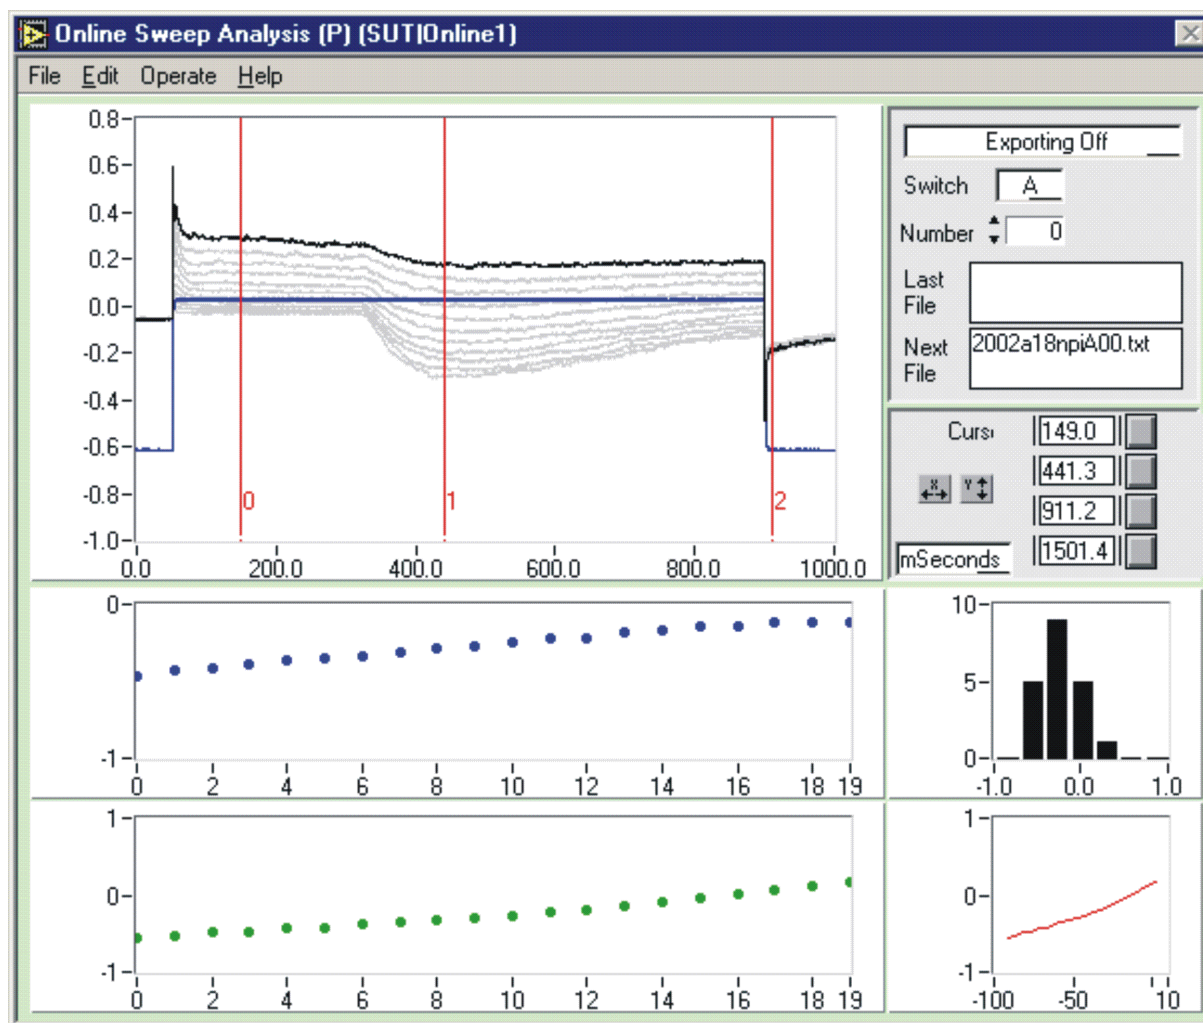
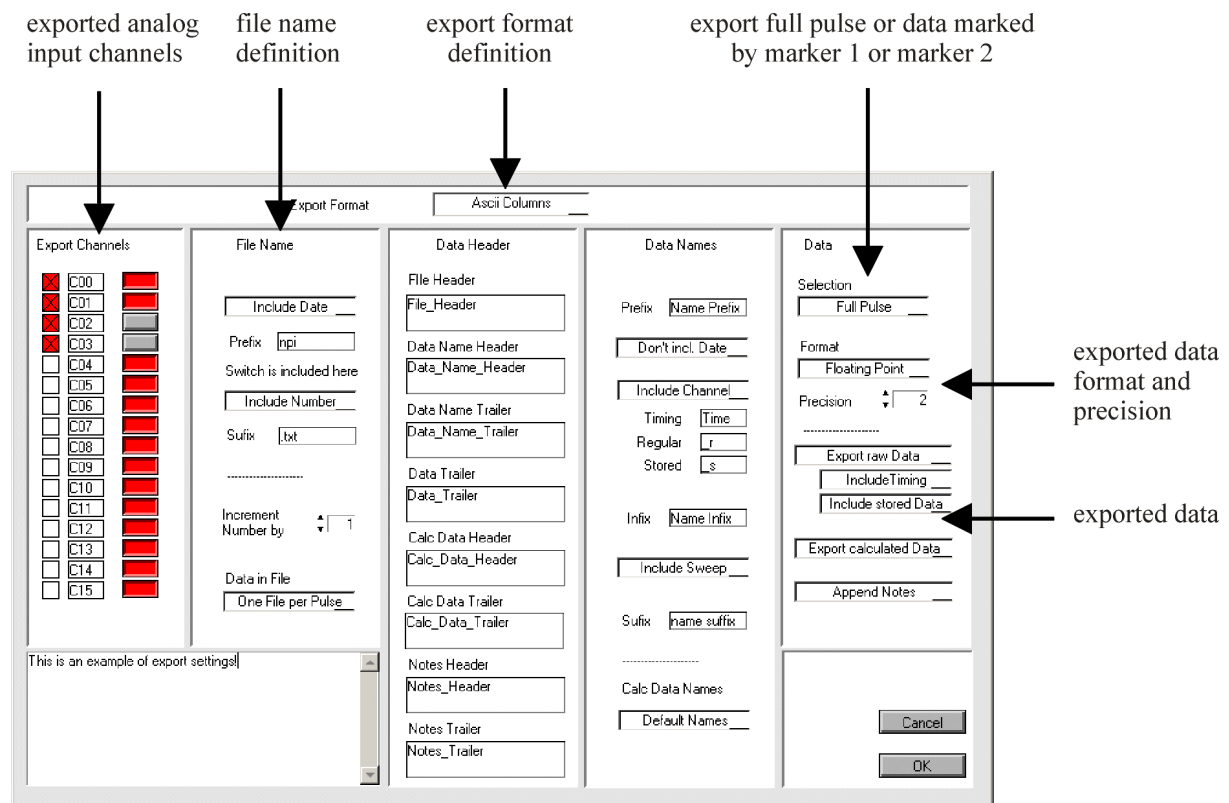
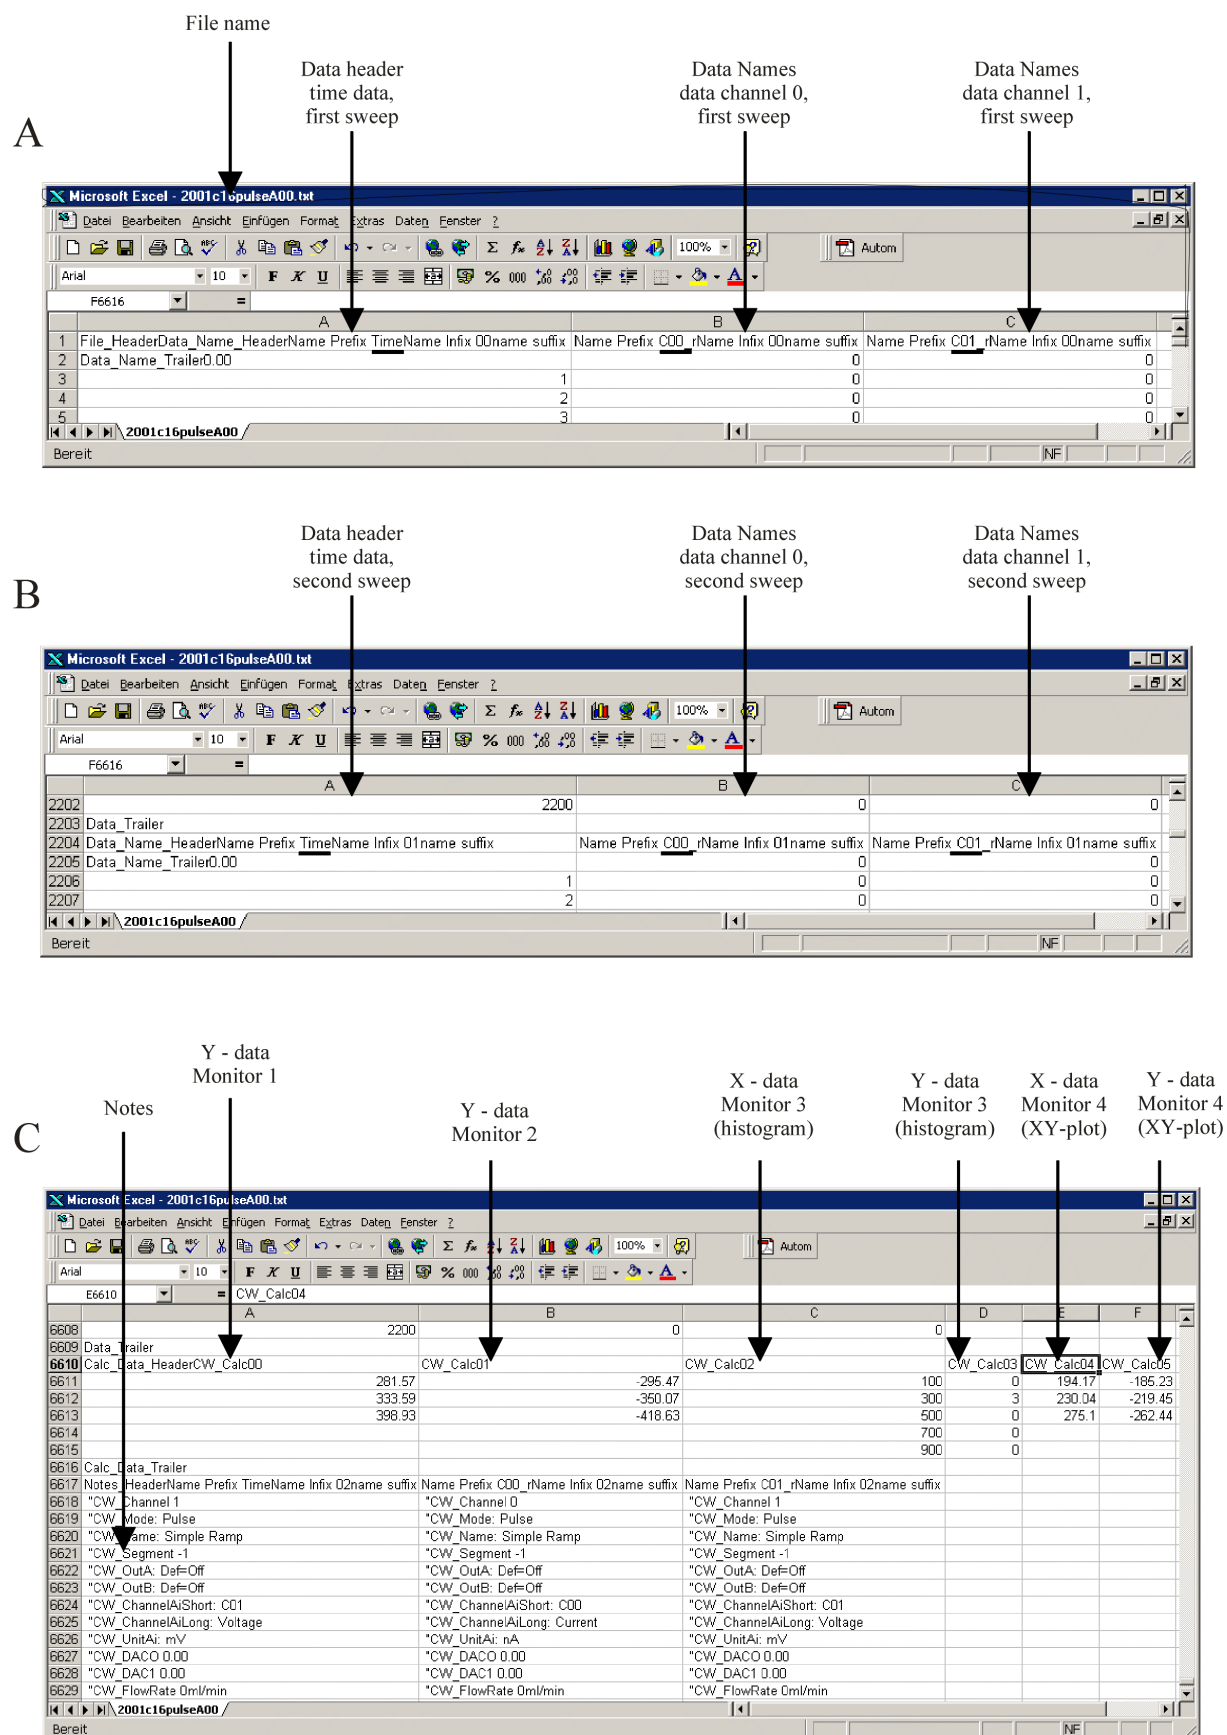

Figure 23: Online Sweep Analysis (P) window
Figure 24: export configuration window
Figure 26: structure of an Ascii export file
The acquired data of up to sixteen Ai channels are plotted online in the large upper left graphic field of the Online Sweep Analysis module (Figure 23). This is the “Online” monitor that contains four cursors as well. The other four graphs are “Analysis” monitors, that display the results of various calculations which are performed with the data points measured by the four cursors of the “Online” monitor (see below).
Using the export functions all recorded data and also the calculated data can be saved to a file on the hard disk. Various export preferences can be set by selecting “Export Settings” in the “File” menu. To turn ON the automatic export function, click to the popup menu “Exporting” on the top right of the “Online Sweep Analysis (P)” window (Figure 23). The names of the export files are built automatically by CellWorks according to the settings of “Switch”, “Number” and various parameters of “Export Settings” (Figure 24). Selecting “Export Settings” in the “File” menu opens a window with several parameters and settings:
Figure 26 illustrates the structure of the resulting Ascii-file using the settings in Figure 24. “A” shows the beginning of the file, “B” shows the end of the first sweep and the beginning of the second sweep, and “C” shows the end of the file with the calculated data and Notes.
An example of the various "Export Settings" as shown in Figure 24 is supplied in the CellWorks Demo folder (CWE Default Demo\CONFIG). To test these settings the user can load the Online module configuration file "Online Export Settings Demo" using the "Load" command in the "File" menu.